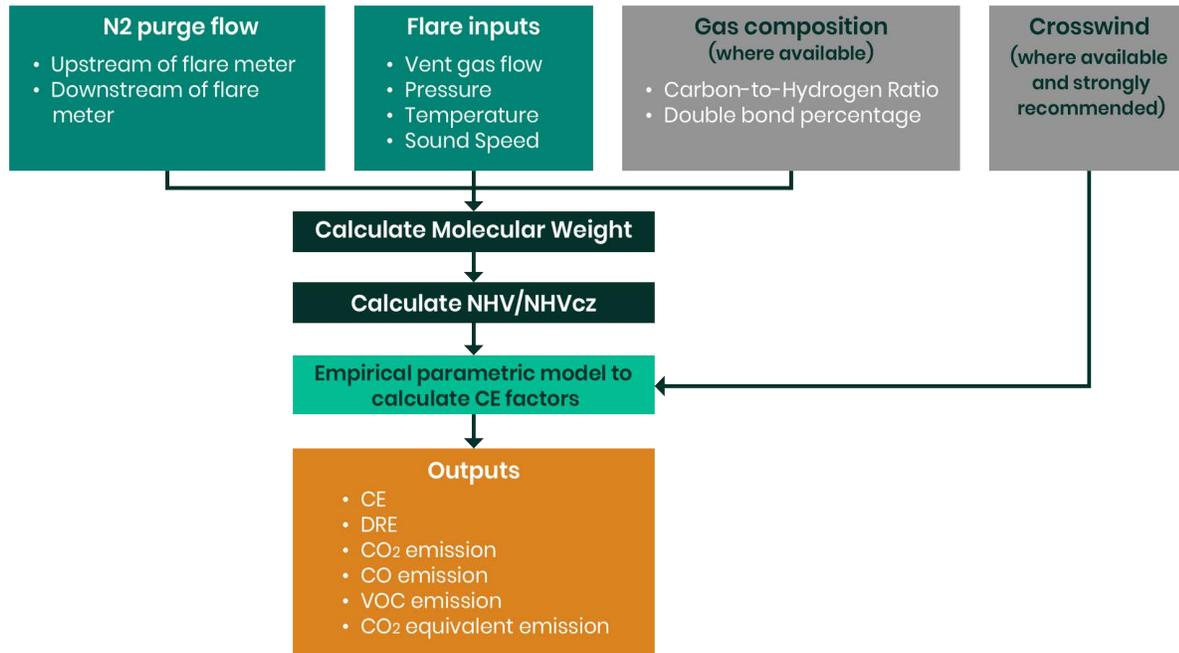

Figure 11: High-level schematic of flare CE, DRE and emissions calculations
A new feature that has been recently added to the flare.iQ Gen 2 software is the online calculation of flare combustion efficiency (CE), destruction and removal efficiency (DRE) and various gas emission values. This Predictive Emissions Monitoring System (PEMS) feature can be utilized for monitoring both unassisted (upstream) flares and steam/air assisted (downstream) flares independently of the Flare Control and Digital Validation features described above. As shown in Figure 11, a parametric model can utilize the vent gas NHV and flare operating conditions to calculate CO₂, CO and VOC emissions.